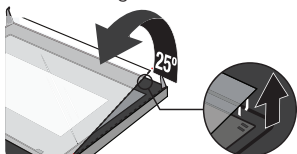

Figure 4
- 4. Seperate the glass carefully by lifting it approximately 25°.(Figure 4)